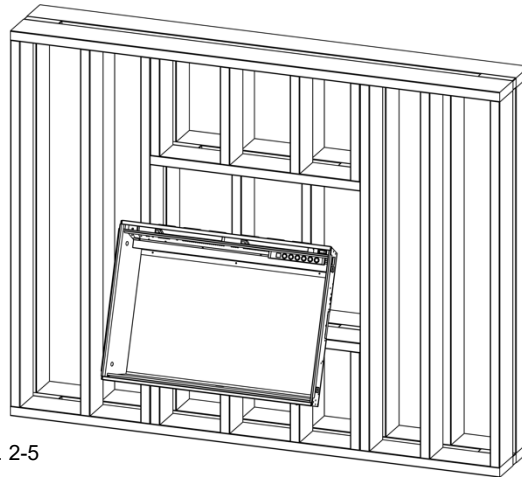

Fig. 2-5
- Insert the appliance in the opening (See “Finished Opening Dimensions”) (Fig. 2-5) and then secure it by installing 4 screws (supplied) into the slots on the inside of the fireplace (Fig. 2-6).